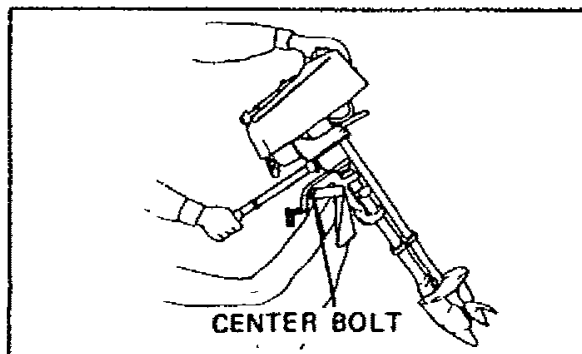

Figure 13
- a. Always tilt motor by lifting on rear of shroud. **DO NOT PUSH DOWN ON THE STEERING HANDLE.** When removing the motor from the boat, raise the outboard in upward direction until the propeller clears the transom. Hold the motor upright long enough to allow all water to drain from the exhaust pipe. When you find it difficult to hold the motor upright, tighten the Center Bolt increasingly for desired effort. (See Figure 13).